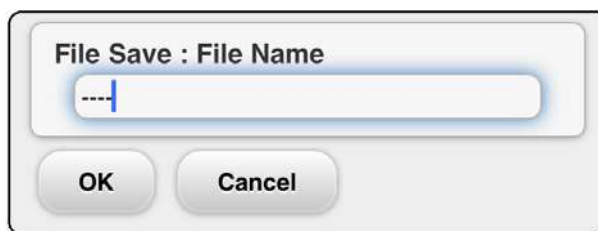

Fig. 4-155 Measured Data Saving Window
- (1) When saving the measured data, press  [save button] icon shown at the header part.
- (2) The file input window (Fig. 4-155) will then be shown. After a saving file name is input, press [OK button].